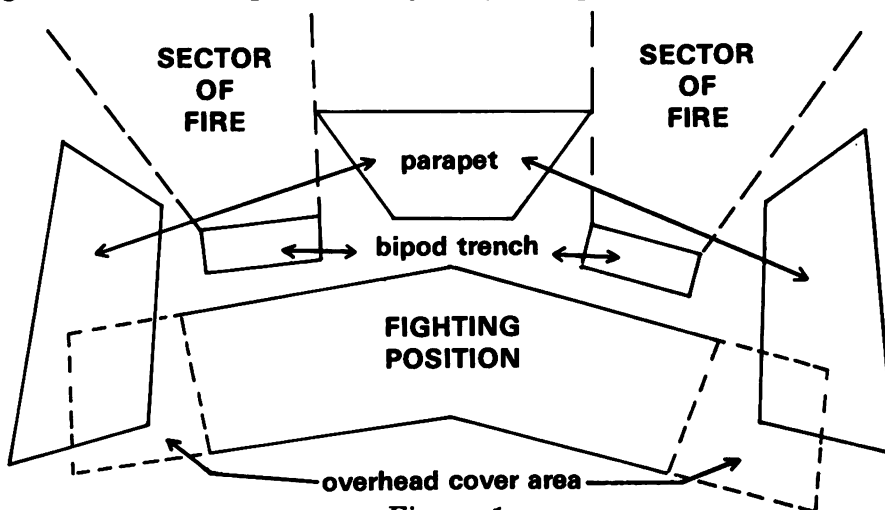

Figure 1.
1. Like any other weapon organic to the platoon, the Dragon and 90-mm recoilless rifle can be employed from hasty or improved positions. A fighting position is a firing position sited and oriented to cover a sector of fire and constructed to accommodate the weapons system and its firer. See figure 1 for an example of a Dragon fighting position.